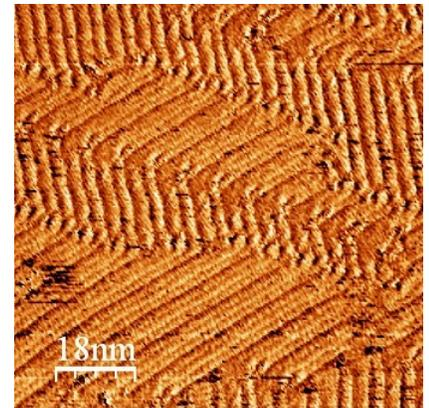

Figure 1. Friction force image of the herringbone surface reconstruction on a Au(111) substrate.
The example below shows FFM image of the surface of a Au(111) film grown on mica substrate. Figure 1 shows the FFM image where the herringbone surface reconstruction on a Au(111) surface with variation in friction force less than 0.1 nN is imaged. Figure 2a shows the high resolution FFM image of Au(111) surface where the atomic stick-slip events can be clearly resolved in the lateral signal of the cantilever (inset Figure 2b). Figure 2b shows the result of automatic acquisition of friction vs. load curve.